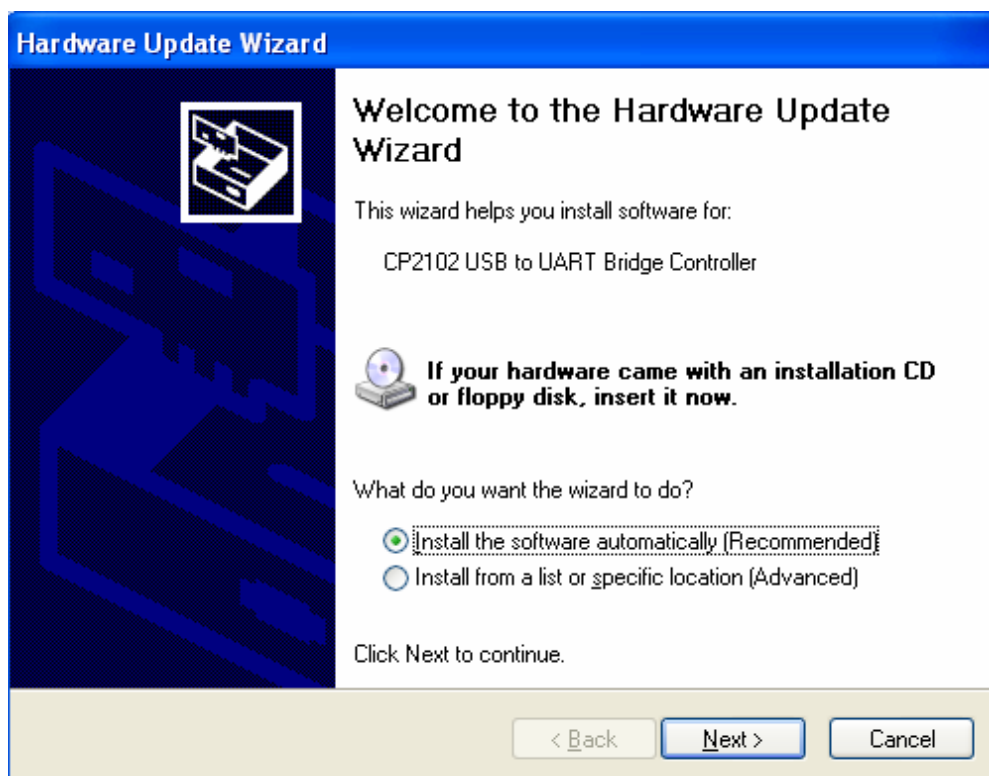

Figure 4
(4). Choose "install software automatically (Recommended) ", as shown in figure4.